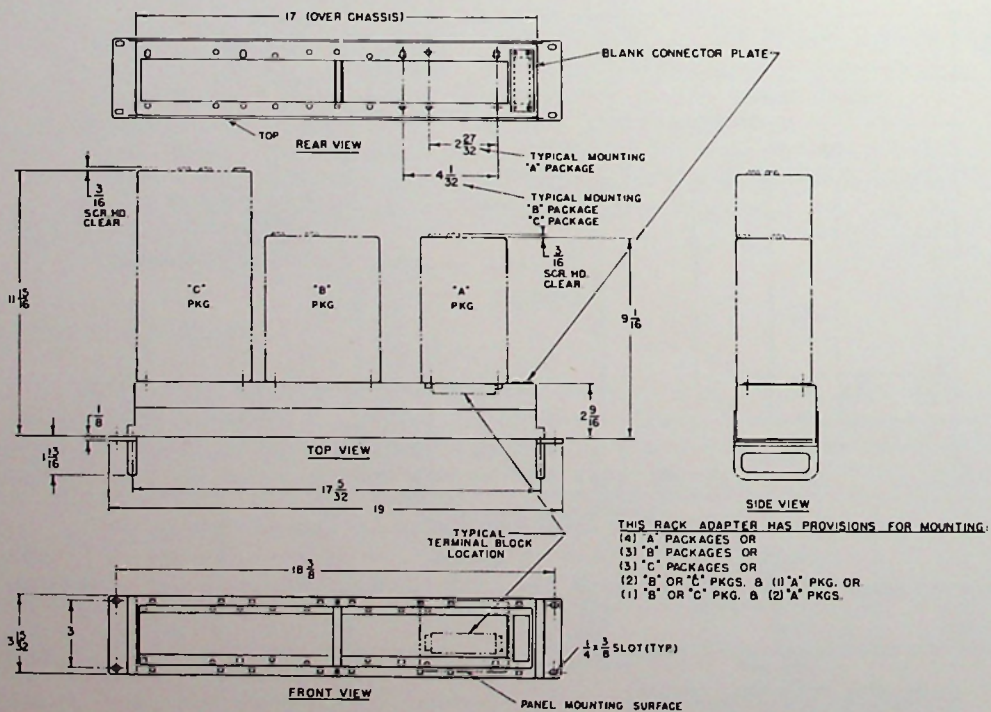

FIGURE 4. RACK ADAPTER LRA-5
2. When using rack adapter LRA-5, Figure 4, position all modular units at rear of the rack adapter so that the terminal block is in the lower half of cutout, when viewed from front of adapter. Secure each A, B and C unit with four 8-32 x 1/4 truss-head screws.